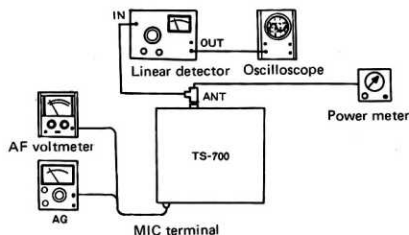

Fig. 26
- 4) Referring to Fig. 26, adjust to obtain an AG output of 2 mV and 1.5 kHz.
- 6) Turn SSB-MIC-GAIN clockwise all the way. As shown in Fig. 26, connect the AF vacuum-tube voltmeter and audio generator (AG) to the MIC terminal.